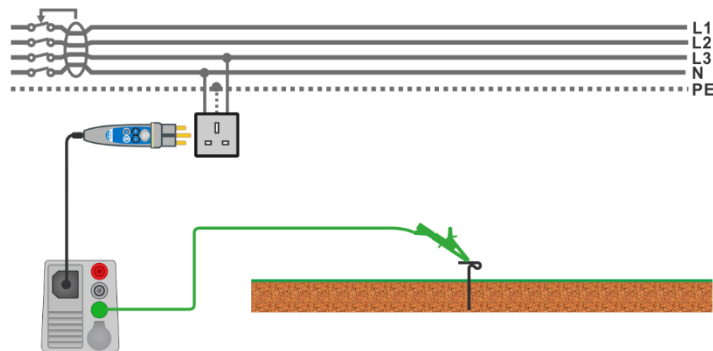

Figure 7.42: Connection for $U_c(P)$ measurement
For connection see **Figure 7.42 Connection for Uc(P) measurement**.
- › Connect test lead to P/S terminal and external earthed point (optional), see **Figure 7.42**.